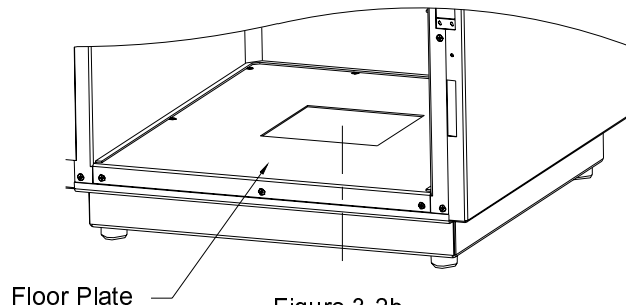

Figure 3-2b.
- **Optional AEC Sensor.** See Figures 3-2b, 3-2c and 3-2d.
- **Optional Digital Cameras.** See Figures 3-2b, 3-2e and 3-2f.